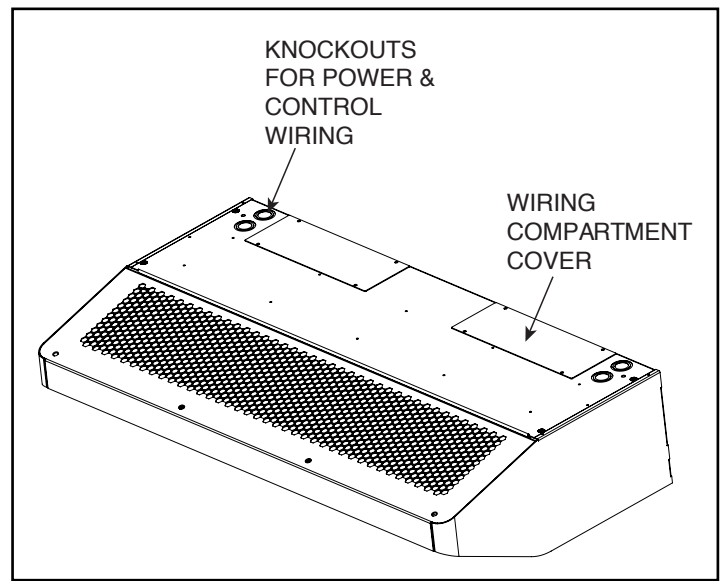

Figure 7 - Electrical Connections
- A. A separate line voltage supply with a suitable branch circuit protection device should be run directly from the main electrical panel to the unit. A disconnect switch for each branch circuit is a required part of this installation. See the voltage label on the unit for circuiting and total electrical load. The wiring diagram is attached to the screen in a small bag. **See Figure 7.**
The heater circuit may be controlled by an optional remote thermostat or through the built-in Intelliswitch™ thermostat located on top of the air curtain. Overheating protection is provided by auto reset thermal cutouts built into the heater coil assembly (see the wiring diagram attached to the screen in a small bag). **See Figure 7.**